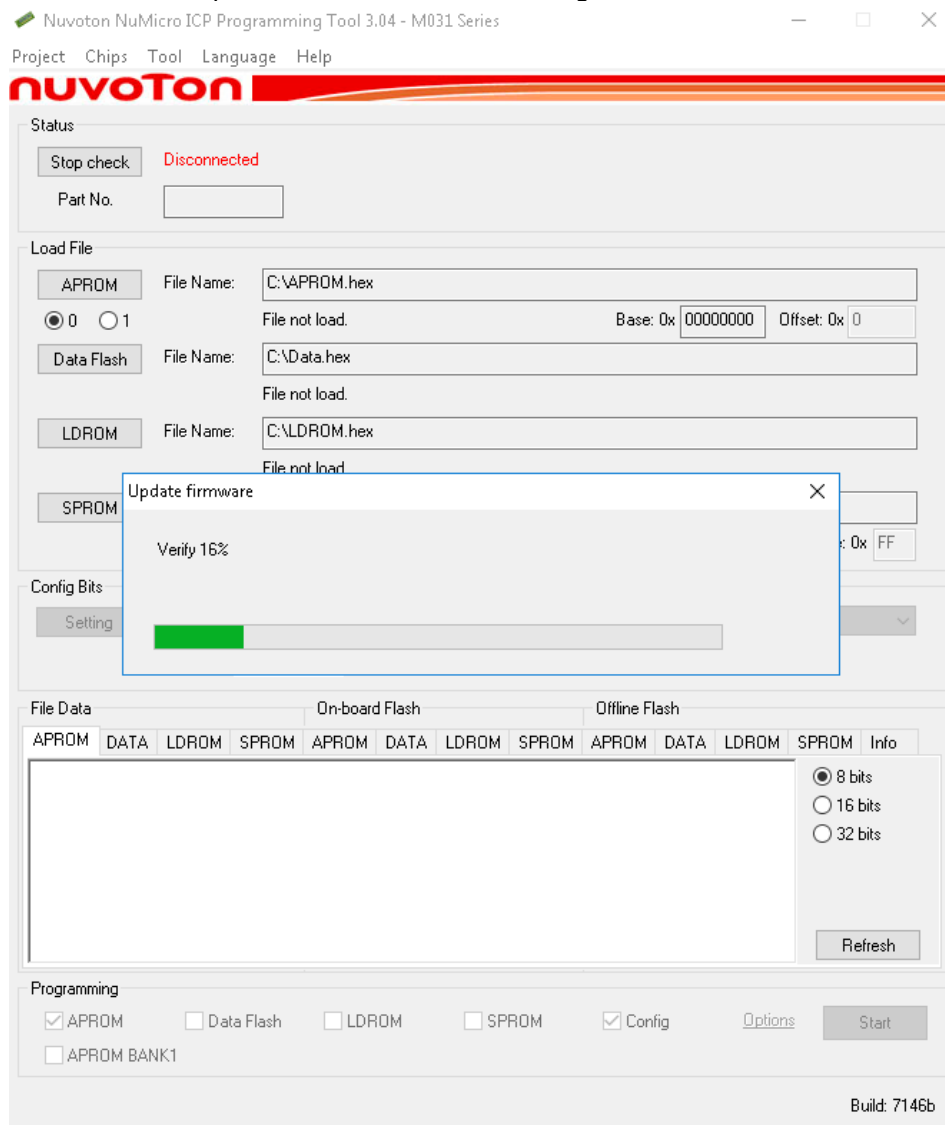

Figure 7-2 Firmware Update Dialog Box
Step 2: Click “Yes” to update firmware, as shown in Figure 7-2.